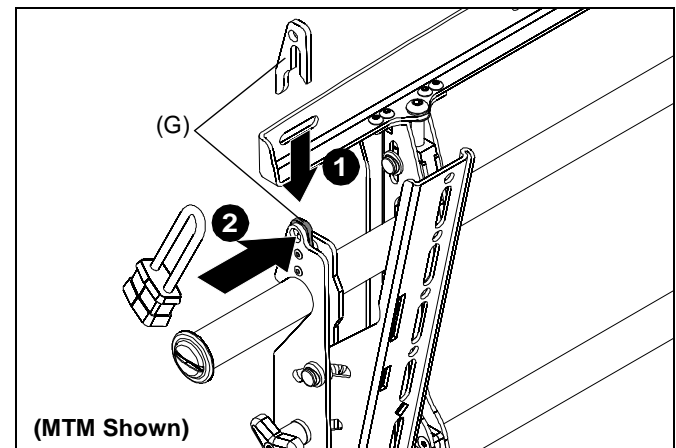

Figure 11
1. Add optional security bracket (F or G) to the mount. (See Figure 11)